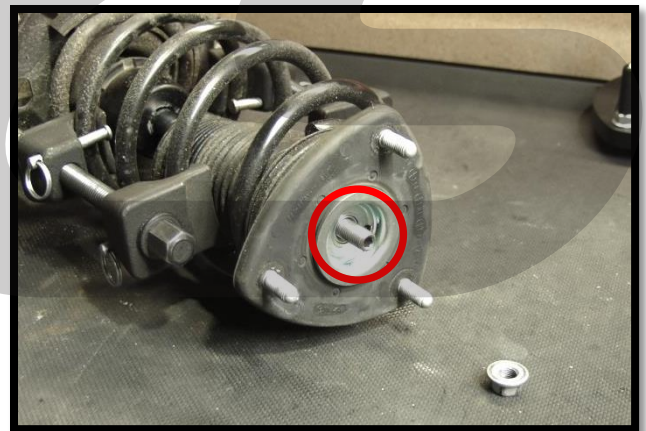

Figure 3b
- b) Remove the 17mm nut holding the upper strut mount to the strut (Figure 3b).
- b) Remove the 17mm nut holding the upper strut mount to the strut (shown removed in Figure 3b).